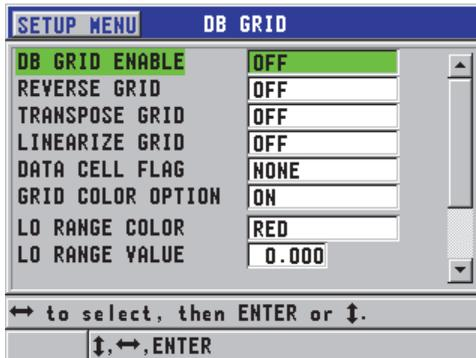

Figure 9-8 Changing DB grid parameters
2. In the **DB GRID** screen (see Figure 9-8 on page 154), perform the following steps.